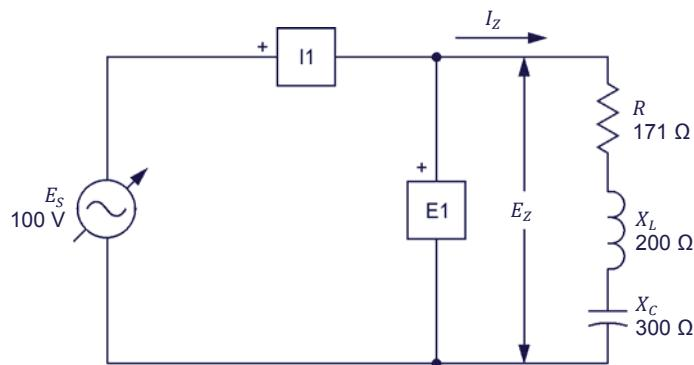

Figure 2-20. Series ac circuit containing a resistor, an inductor, and a capacitor.
- 39.** Set up the circuit shown in Figure 2-20.